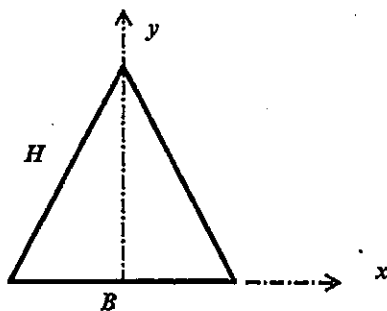

Fig.1 二等辺三角形断面
- 1) Fig.1 に示す底辺  $B$ 、高さ  $H$  の二等辺三角形断面の図心（中立軸）を求めなさい。なお、断面は均質材料から成るものとする。
Answer the centroid, i.e., the origin of the neutral axis, of the isosceles triangle cross-section with base of  $B$  and height of  $H$ , which is shown in Fig.1. Note that the cross-section is composed of a homogeneous material.
- 2) 同じく Fig.1 の二等辺三角形断面で、1) で求めた中立軸に関する断面 2 次モーメント  $I$ （下式で与える）をもとめなさい。
Consider the same isosceles triangle cross-section in Fig.1, Calculate the second moment of area  $I$ , which is defined as the following equation, to the neutral axis, which is derived in question 1) .
Triaxial compression tests were conducted on undisturbed samples taken from point A at a depth of 14m in normally-consolidated clay ground as shown in Fig.1. Answer the following questions. Unit weight of water  $\gamma_w$  is  $10 \text{ kN/m}^3$ .
図-1 (Fig. 1)